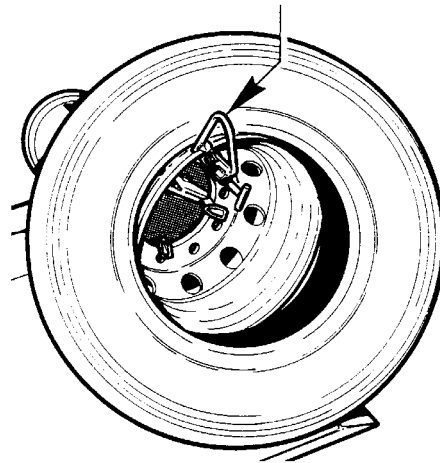

Fig.27
2. Move the chuck arm all the way down. Roll the tire on the footboard and hang it onto the mounting clamp (Fig.27).